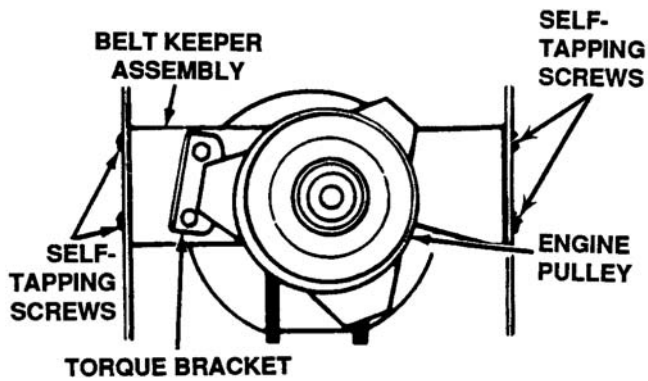

Figure 4-46. Removal of Torque Bracket
- e. Remove the torque bracket by removing two hex bolts and washers. See Figure 4-46.